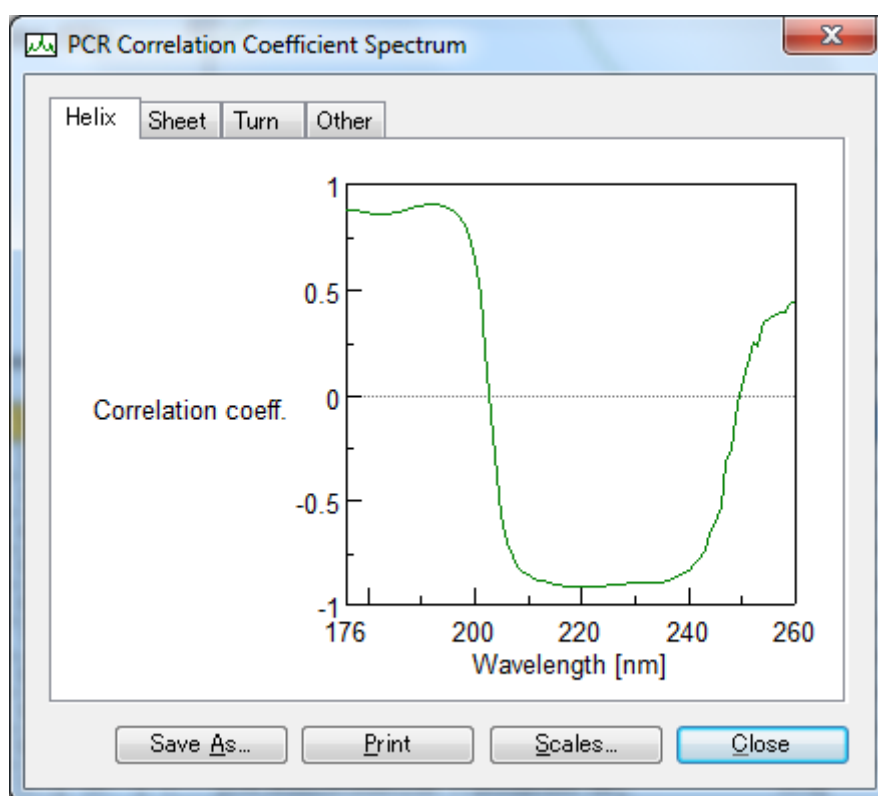

Figure 2.7 [PCR Correlation Coefficient Spectrum] dialog box
- (1) Select [PCR] - [Correlation Coefficient Spectrum...] from the [Model] menu. The dialog box in Fig. 2.7 is displayed.
- (2) Click the <Next> button until the [Calculation Parameters] dialog box in Figure 2.7 is displayed. In [PLS Factors], enter the values written down as instructed in Sections 2.5.2 and 2.5.3 and then click the <Finish> button.
- (3) In [Calculation range], enter the range written down, as instructed in Section 2.5.1.
- (4) Select [Calculate] from the [Model] menu or click the  tool button. The calibration model is recalculated.